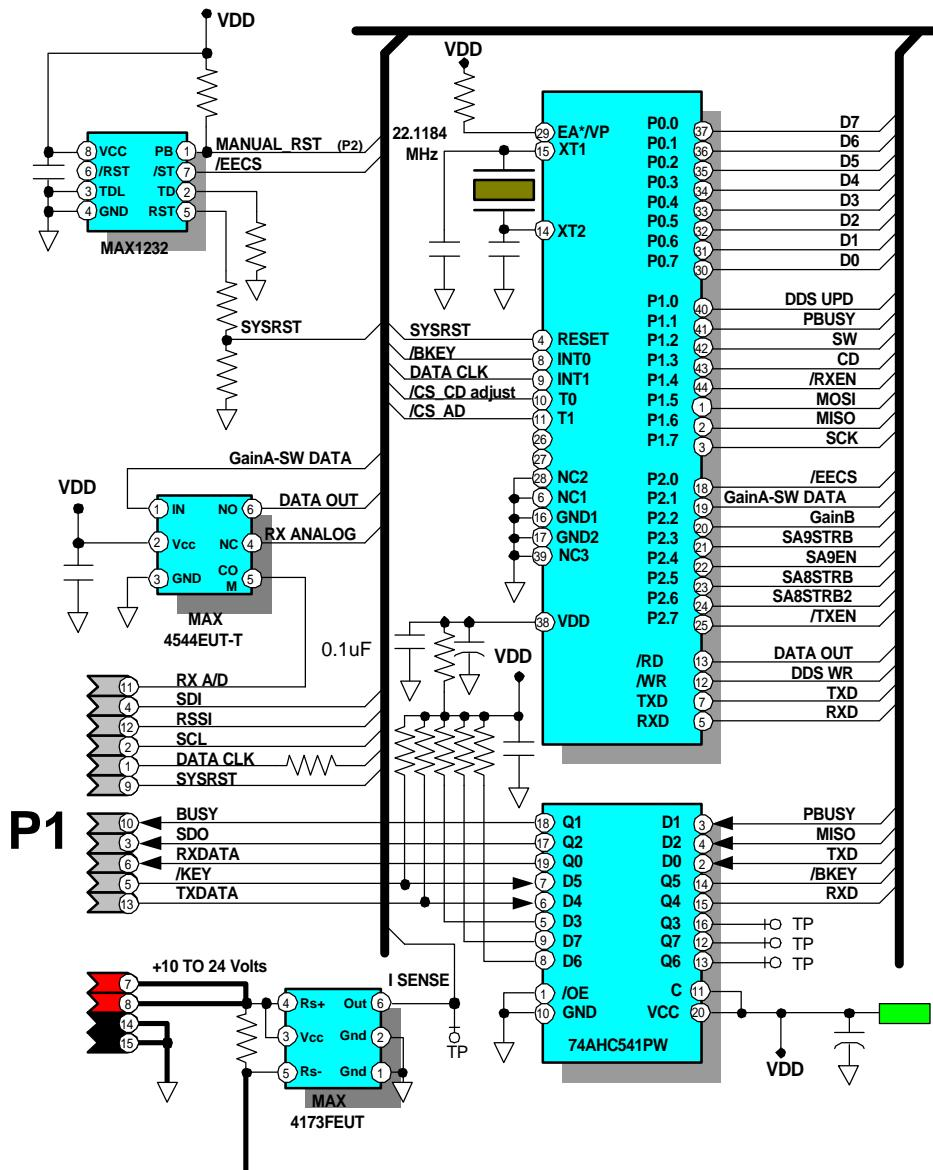

Figure 12
* The gainA signal is also used during the received time as another function. This signal is used to select between two signals: the RX analog signal or the Data out from the micro-controller (figure 12). The Data out signal provides information from U9 analog to digital converter.